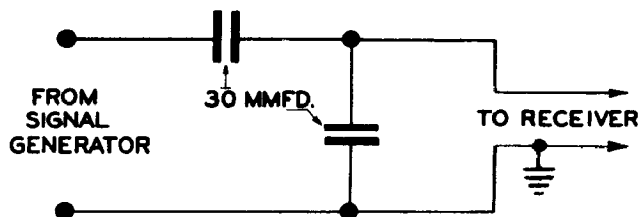

Fig. 9. Dummy Antenna
Fig. 9 shows the schematic of a recommended dummy antenna, closely resembling actual antenna capacity, to be used in series with signal generator leads when aligning the R.F. section of the receiver.
- 1—Connect signal generator leads through dummy, illustrated in Fig. 9, to antenna lead in socket on receiver.
- 3—Connect signal generator leads through dummy, illustrated in Figure 9, to antenna receptacle on the receiver.